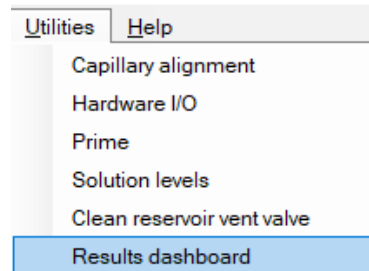

Figure 111 Utilities menu
- 1 From the Utilities drop-down menu, select **Results dashboard** (Figure 111).